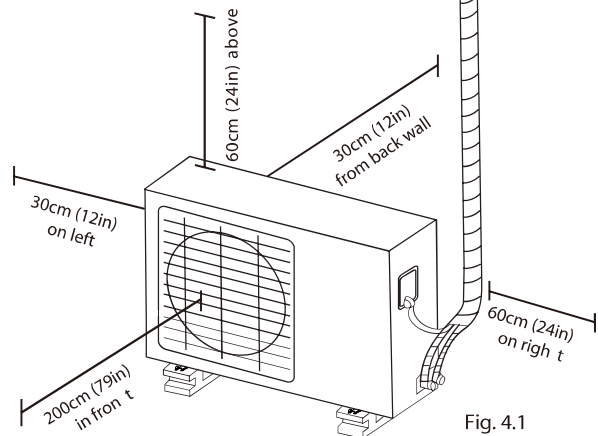

Fig. 4.1
- ✔ Meets all spatial requirements shown in Installation Space Requirements (Fig. 4.1)